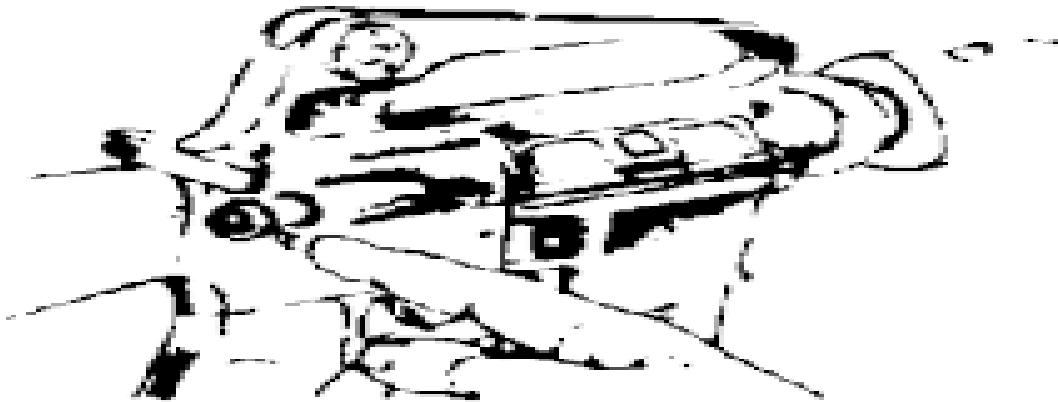

Figure E-37. Seating the takedown pin.
n. Close the upper and lower receiver groups, seating the takedown pin, and ensuring the selector switch is on safe (figure E-37)